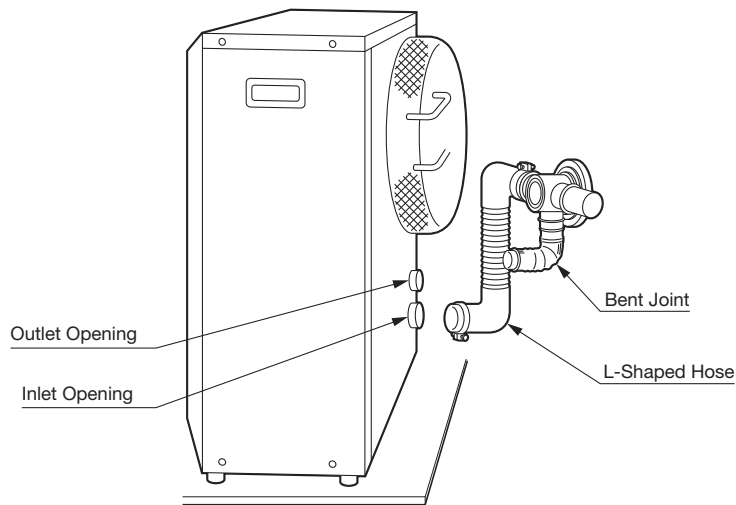

Fig. 11
7. Move the heater into position. Connect the bent joint to the exhaust outlet opening (upper opening) and attach the L-shaped hose to the intake inlet opening. Make sure all connections are tight (See Fig. 11).